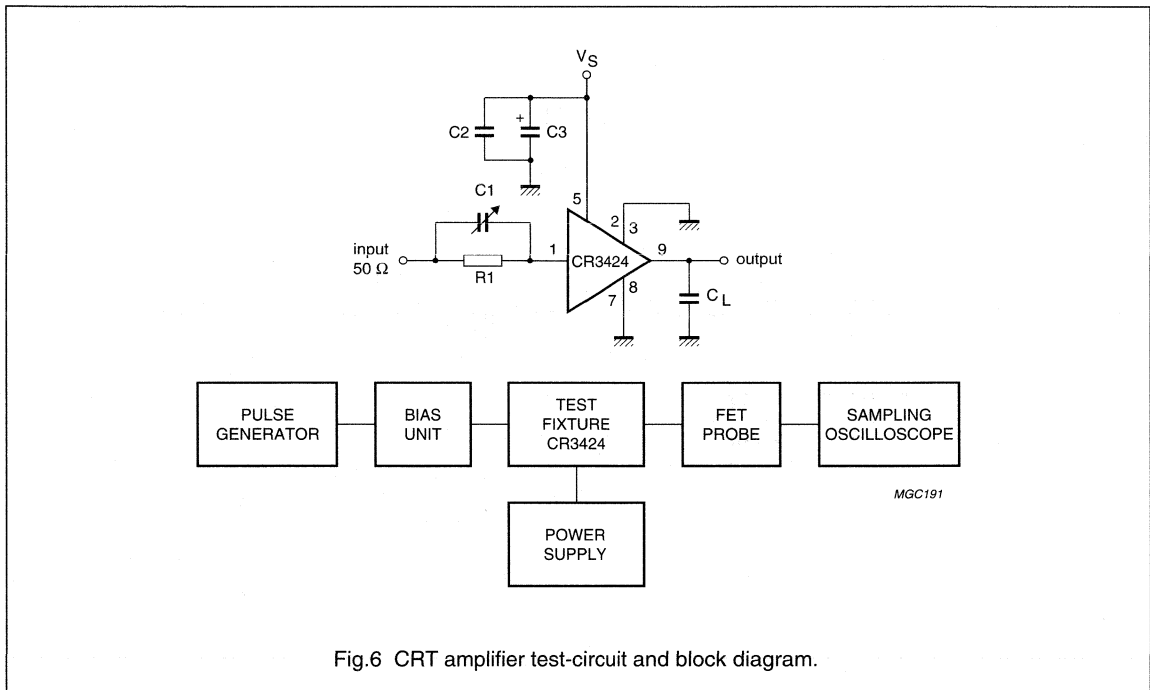

Fig.6 CRT amplifier test-circuit and block diagram.
$V_S = 80\text{ V}$ ;  $T_{mb} = 25\text{ }^\circ\text{C}$ ;  $C_L = 10\text{ pF}$ ;  $R_1 = 287\text{ }\Omega$ ;  $C_1 = 60\text{ pF}$ ; 40 V (p-p) output swing with 40 V DC offset (see Fig.6); unless otherwise specified.
3. Measured  $V_O/V_I$  (Fig.2) at input test-circuit (see Fig.6).
4. Measured  $V_O/V_I$  (Fig.3) at input module (see Fig.6).
## Components used in test-circuit (see Fig.6)
## Equipment used in test-circuit (see Fig.6)